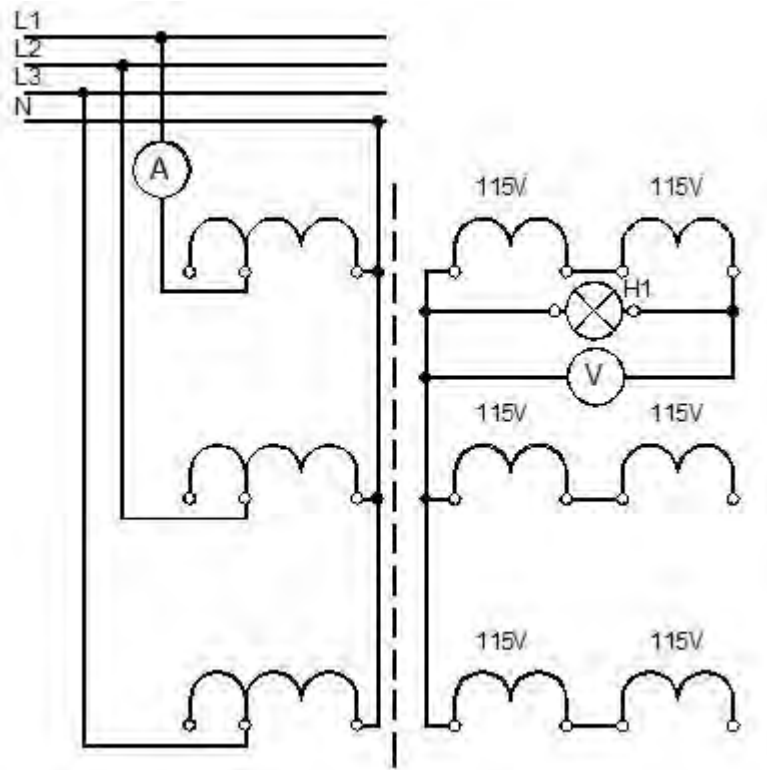

Figure 8:
1. Wire up the circuit in accordance with the set-up and wiring diagram of Figure 8.